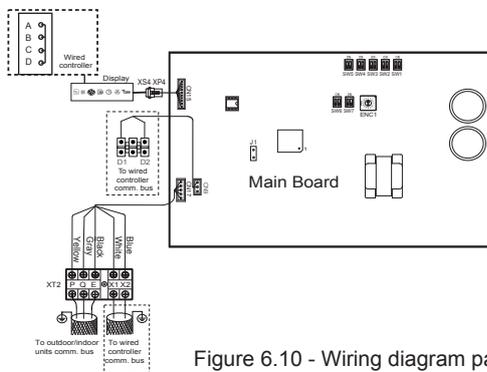

Figure 6.10 - Wiring diagram page 25
- The X1, X2, D1, D2 ports on the sides of the main control board and the unidirectional communication port (display board side) are for different types of wired controllers (see Figure 6.10).